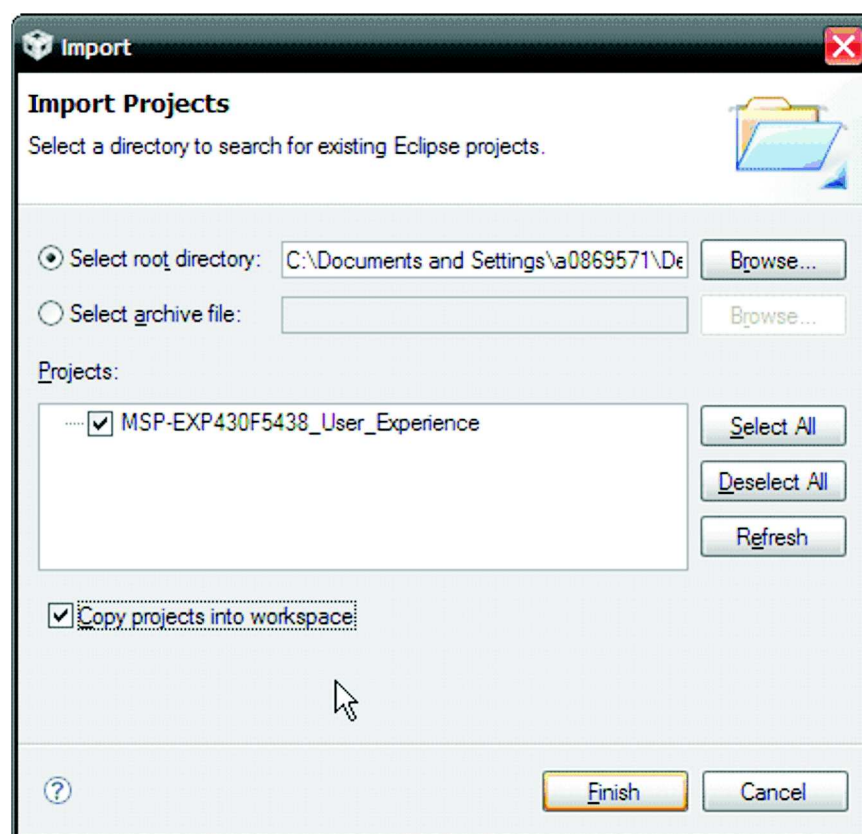

Figure 3-2. Opening Existing Project
7. Browse to the extracted project directory. The project should now show up in the Projects list (see Figure 3-2).